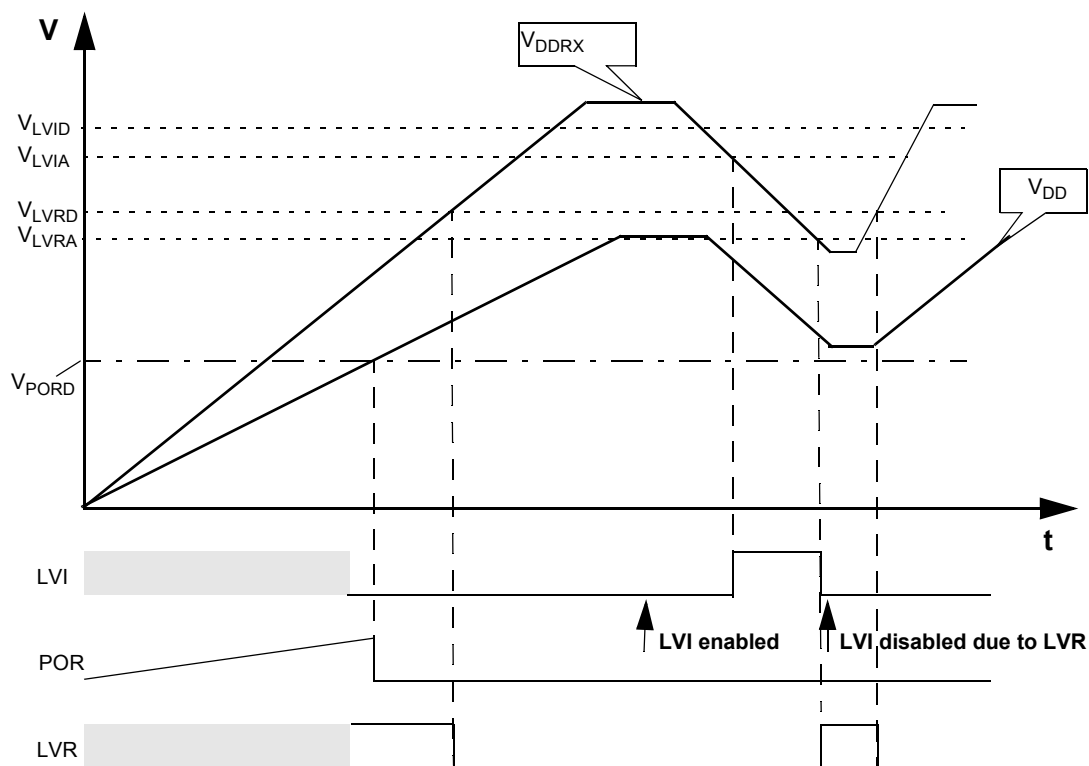

Figure 7. Chip power-up and voltage drops OSCLCPcr electrical specifications
56. Monitors VDDR \bar{X} , active only in Full Performance mode. MCU is monitored by the POR in RPM (see Figure 7)
58. Monitors VDDR \bar{X} , active only in Full Performance mode. V_{LVRA} and V_{PORD} must overlap (see Figure 7)